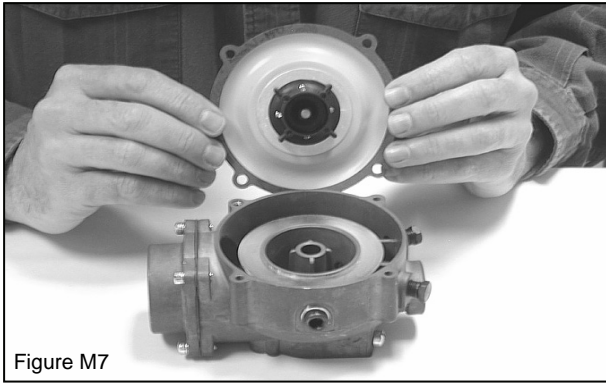

Figure M7
4. Clean the heavy end deposits from the mixer body with solvent. Be sure the mixer body is completely dry before installing the new air-valve assembly. Replace the air-valve assembly as shown (Figure M7).